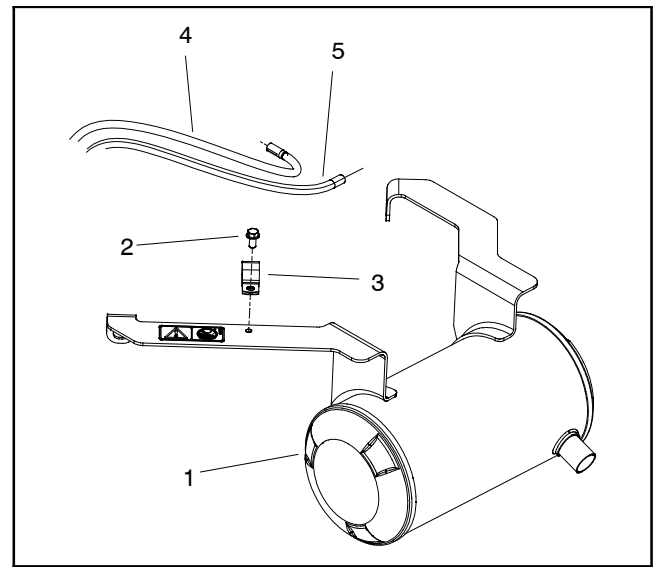
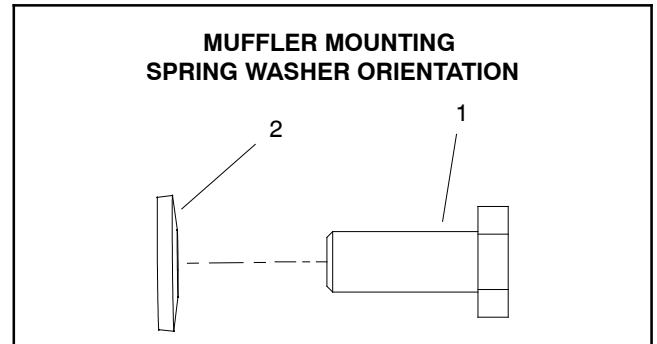

Figure 6
Figure 7
2. Remove fasteners (items 3, 4 and 5) that secure muffler shield (item 2) to machine. Remove muffler shield.
3. Remove r-clamp from muffler support bracket (Fig. 6).
5. Remove muffler clamp (item 6), cap screws (item 7) and spring washers (item 8) that secure muffler to engine. During removal, note orientation of spring washers (item 8) for assembly purposes.
3. Secure muffler (item 9) to engine with cap screws (item 7) and spring washers (item 8), making sure that spring washers are orientated correctly (spring washer orientation is shown in Figure 7). Torque cap screws from **17 to 21 ft-lb (24 to 28 N-m)**.
4. Secure muffler inlet to exhaust manifold with muffler clamp (item 6).
5. Secure r-clamp to muffler support bracket (Fig. 6).
6. Secure muffler shield (item 2) to machine with removed fasteners (items 3, 4 and 5). Position muffler shield so that muffler tailpipe is centered in shield hole.